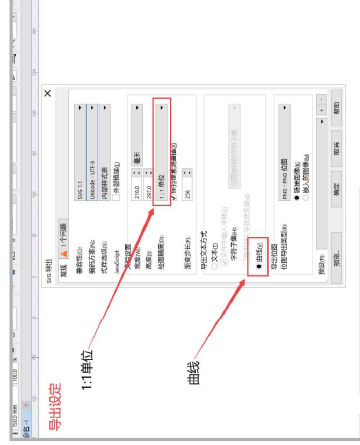

Figure1-12
3. Export settings, export precision 1:1, and export check curve of the text style, as shown in Figure 1-12 below;